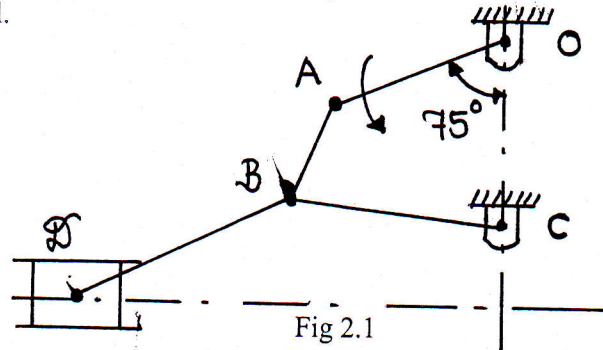

Fig 2.1
- (A) What do you understand by constrain motion? What are the different types of constrained motion? Explain each type with examples. (05)
- (B) Explain Grubler's criterion for determining degree of freedom. Using Grubler's criterion for planer mechanism, prove that the minimum number of binary link in constrain mechanism with simple hinges is four. (05)
- Q.2 In figure 2.1, speed of the crank OA is 600 rpm. Determine the linear velocity of slider D and the angular velocity of the link BD, when the crank is inclined at an angle of 75° to the vertical. The dimensions of various links are: OA=28 mm; AB=44 mm; BC=49 mm and BD=46mm. The center distance between the center of rotation O and C is 65 mm. The path of travel of the slider is 11 mm below the fixed point C. The slider moves along horizontal path and OC is vertical. (10)